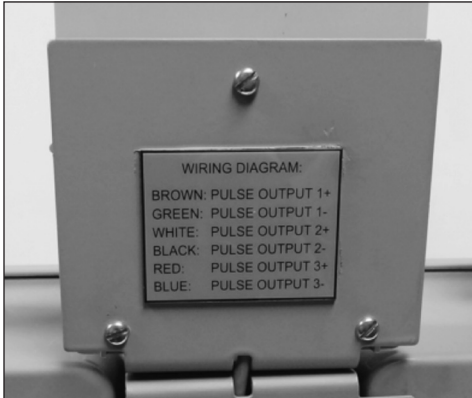

Figure 7.26 - Lower screws and nuts installed
- Now install the bottom set of screws and nuts as shown in Figure 7.26. Once all three sets of screws and nuts are installed they can be tightened.